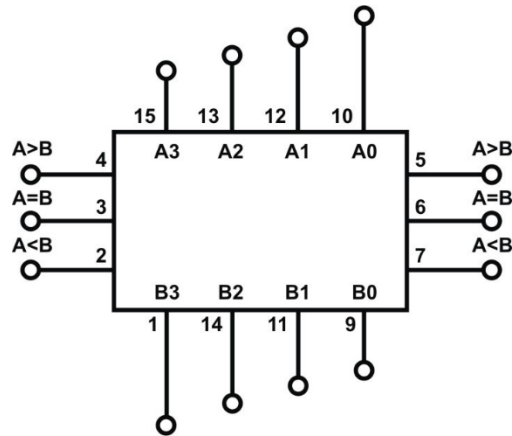

Figure 2.14: 4-bit Comparator IC (KL-33002 block Comparator 2).
- a) Block d of module KL-33002 will be used in this section. U6 is a 74LS85 4-bit Comparator IC shown in Figure 2.14.